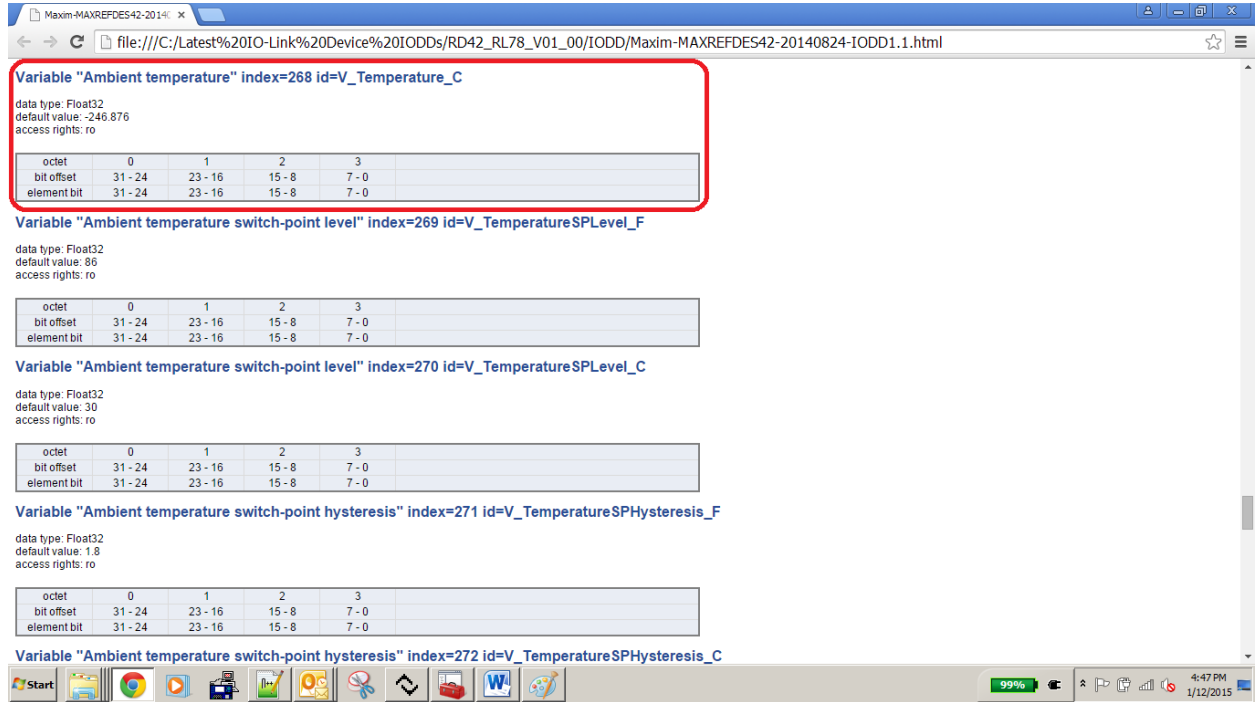

Figure 15. .html index definition file – Index 268.
15. Next, go to index 268 in the **Maxim-MAXREFDES42-20140824-IODD1.1.html** file , which is the ambient temperature in degree C variable, as shown in Figure 15.